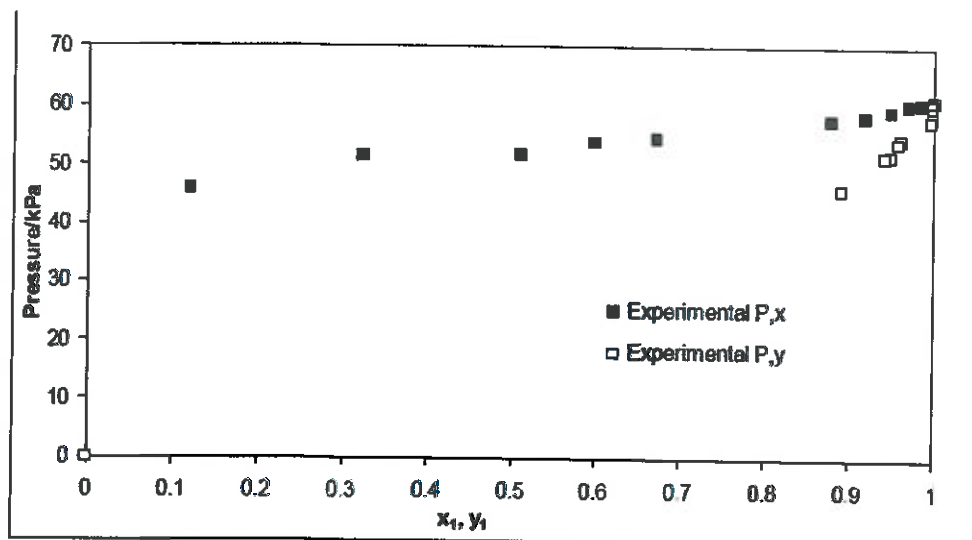

Figure 1.2. P-x-y plot for system 2-propanol (1) + n-dodecane (2) at 343.15 K.
1.2 The measured data for the 2-propanol (1) + n-dodecane (2) system at 343.15 K is presented graphically in Figure 1.2 and tabulated in Table 1.1.
- (i) Is the Margules 3-suffix model an appropriate model to correlate the data? Show with explanations. (5)
- (ii) *Bhownath et al.* regressed the data using various activity coefficient models as shown in Table 1.2. Comment on the suitability of the models for correlating the system. (2)
- (iii) Comment on the measured experimental data as presented in Figure 1.2. (6)